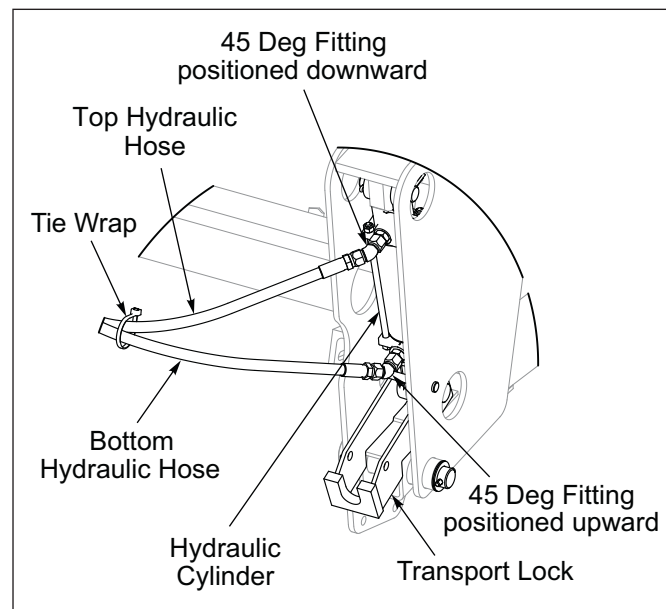

Figure 2-10: Cylinder Fittings Positioning
1. Restrictors installed in Cylinder Ports, connect 45 Degree Fitting so they are free to swivel. Connect top Hydraulic Hose to the Cylinder Base and bottom Hydraulic Hose to the Cylinder Rod End. Position the Hydraulic Hoses so that the Cylinder Base End points downward and the Cylinder Rod End points upward. Merge Hydraulic Hoses together and Tie Wrap them together about 12 inches from the Hose End. See **Figure 2-10**. Be sure that the Hoses cannot sag and make contact with the Front Roller Wheels.